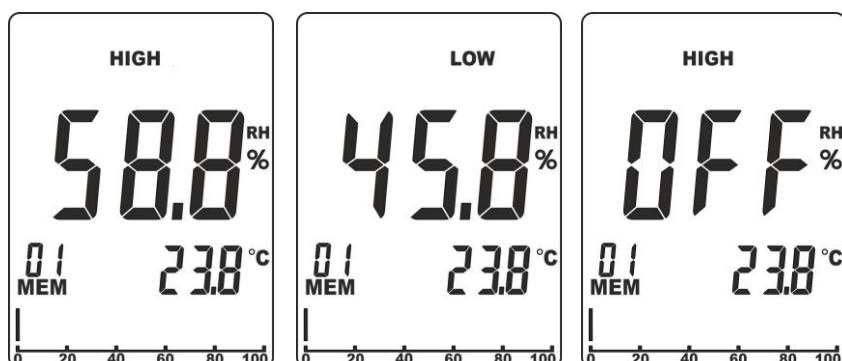

Fig. 5: Setting of alarm thresholds for %RH measurement
1. Press and hold keys **RH%** and **MODE/ZERO** at the same time for a few seconds. The symbol "HIGH" is shown on the top of the display (see Fig. 5 – left side).
2. Use the arrow keys **◀** or **▶** to set the value of Maximum threshold in range: **0.1% ÷ 99.9%**. In these conditions, the instrument will give out an **intermittent** sound when the measured value of humidity is higher than the set threshold. Select option “**OFF**” to disable the alarm (see Fig. 5 – right side)
3. Press key **MEM/ALM** to confirm and go to the setting of the Minimum threshold. The symbol “**LOW**” is shown on the top of the display (see Fig. 5 – middle).